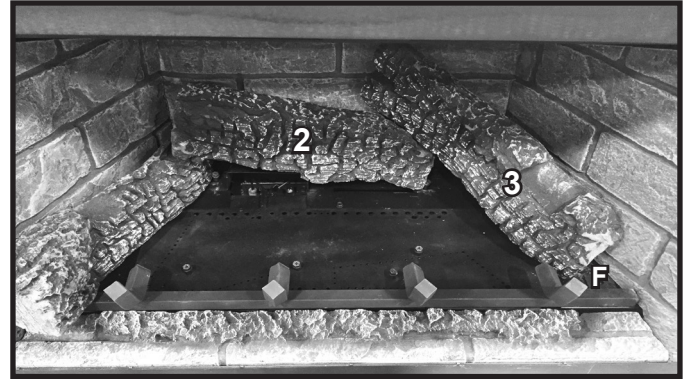

Figure 6. Log #3 Installed
**LOG #3:** Place lower right side of Log #3 against pin F and burnout end of log #3 on flat spot of Log #2. Slide the burnout end of log back until it contacts refractory. The right end of the log will also contact the right side refractory. See Figure 6.